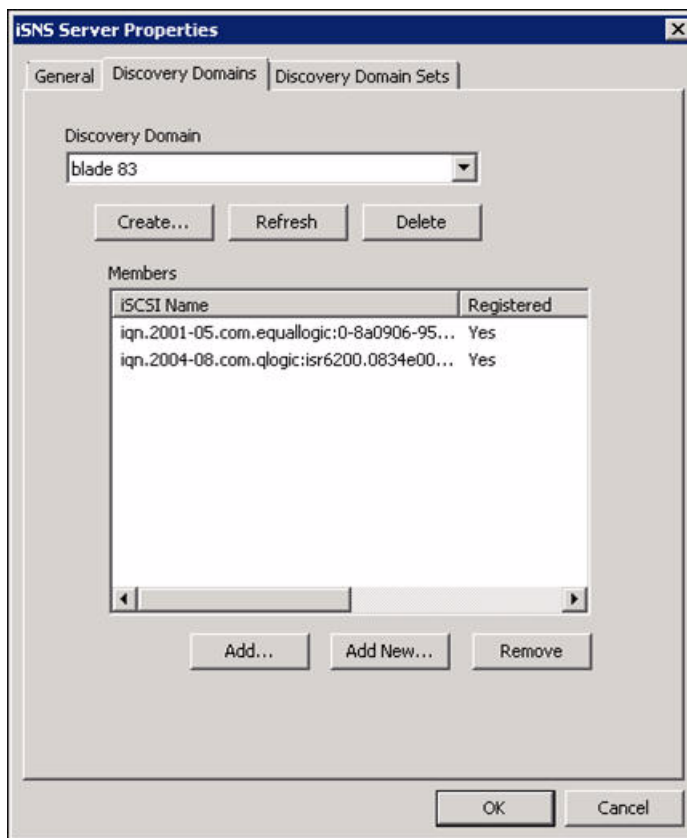

Figure 3-2. iSNS Server Properties: Creating a Discovery Domain
- c. Create a discovery domain and add to it both the initiator (router) and target (array), as shown in Figure 3-2.